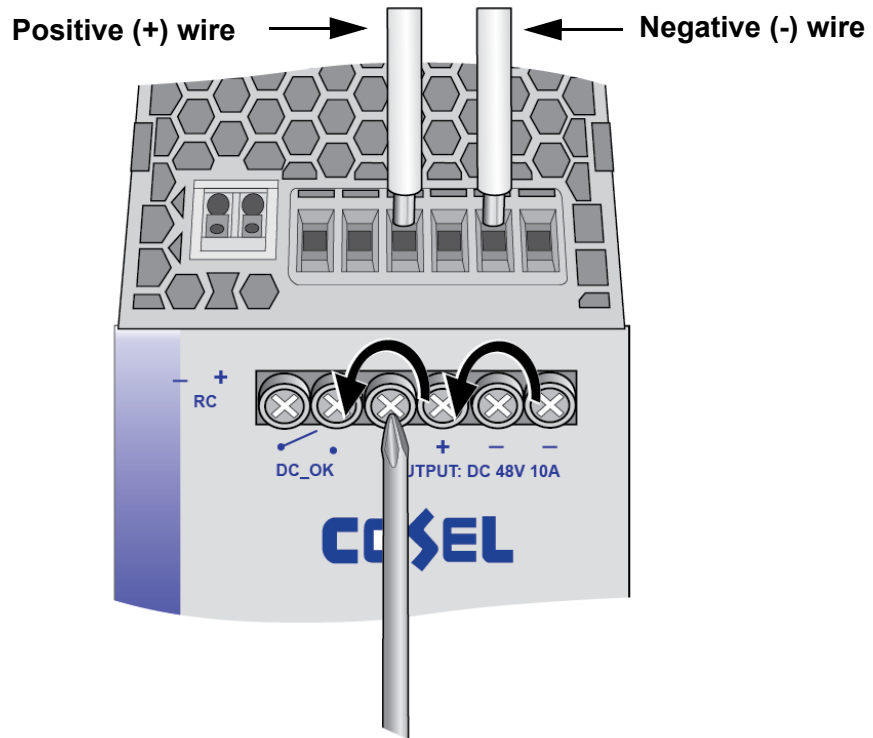

Figure 14. Installing DC Output Power Wires
3. Loosen the screws for one positive (+) connector and one negative (-) connector on the front panel of the power supply and insert the wires into the connectors on the top panel. The positive connectors are connected internally in the power supply. The negative connectors are also connected internally. You can use either of the positive connectors with either of the negative connectors. Refer to Figure 14 on page 56.
2. Loosen the two RC connector screws on the top panel and insert the wires into the connectors. Refer to Figure 14.